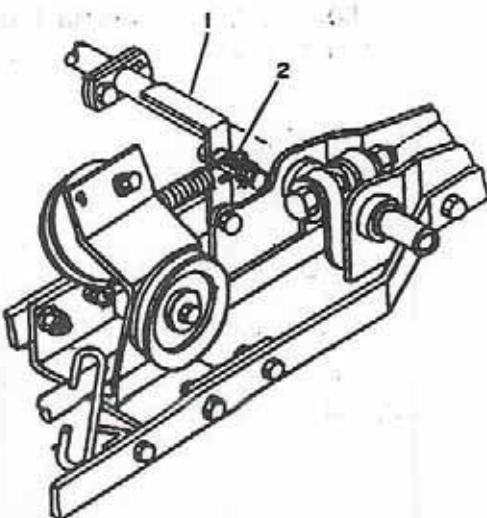

FIGURE 10
- d) **Tractor with electric PTO clutch:** Loosen the belt tensioner (fig. 10, item 1) by moving the lever forward. Put tension on the V-belt after it is installed by moving the lever (item 1) toward the rear.
- b) Tractor with electric PTO clutch: Loosen the belt tensioner (fig. 10, item 1) by moving the lever forward. Put tension on the V-belt after it is installed by moving the lever (item 1) toward the rear.